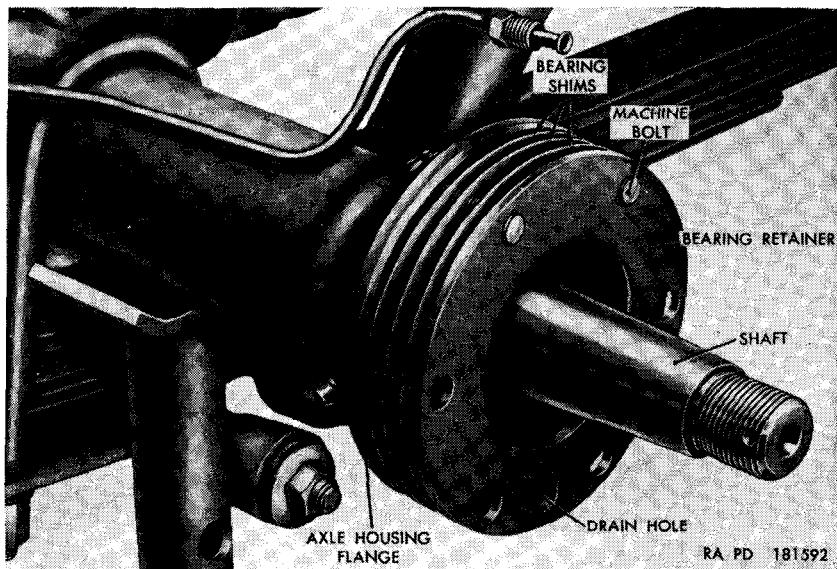

Figure 96. Rear axle shaft, bearing shims, and bearing retainer.
- (8) Remove the bearing retainer and bearing shims from the axle housing flange (fig. 96).
- (2) Insert the axle shaft into the axle housing and rotate shaft until the spline enters the differential side gear.
- (3) Position the bearing cone on the axle shaft with the small end of the bearing taper facing out. Position the bearing cup over the cone and tap the cup and cone on the axle shaft until the cone seats.
- (4) Position the bearing shims and bearing retainer over the axle shaft, alining the drain holes in the retainer and shims with the drain hole in the axle housing flange (fig. 96). Insert two of the six $\frac{3}{8}$ x 1 $\frac{1}{4}$ bolts through the axle housing flange from the inner side and through the shims and retainer to maintain the alinement.
- (6) Pull the bearing retainer (fig. 96) off the bolts and remove or install shims to adjust the axle bearing to provide 0.003- to 0.007-inch end play of the axle shaft.
- (7) Install the bearing retainer (fig. 96) over the shims making sure the drain hole is at the bottom.